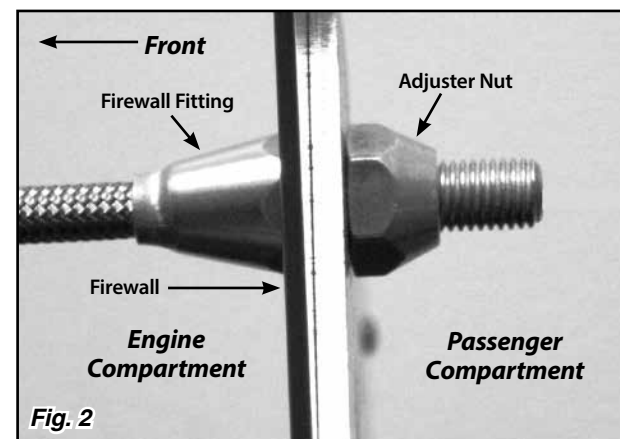

Fig. 2
Step 4: On the pedal end of the cable housing, remove the adjuster nut from the firewall fitting. Insert the firewall fitting through the firewall from the engine side, and reinstall the adjuster nut. **Fig. 2**